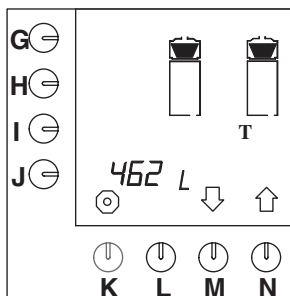

Fig. 28 Total counter coffee-making system
- The total counter appears on the display. The total number of litres of coffee that have been made during the lifetime of the machine can be read from the display (fig. 28).